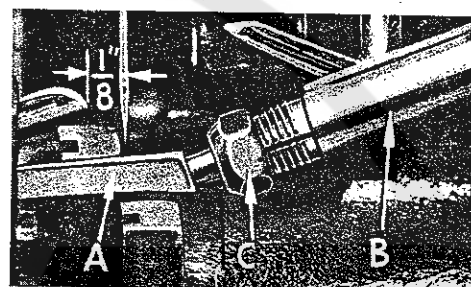
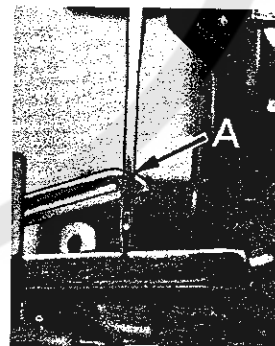

Fig. 5
Fig. 7
At this point, insert lower looper (A, Fig. 5) into bar (B). With lower looper at left end of its stroke, set looper point $1/8$ inch from center of needle (Fig. 5), using looper gauge No. 21225- $1/8$, on Styles 39500 FS, FT, FU, GT and JP. On Styles 39500 GD and GL, with lower looper at left end of its stroke, set looper point $1/16$ inch from center of left needle, using looper gauge No. 21225- $1/16$. Now assemble differential (front) feed dog.
Now finish lower looper adjustment. As lower looper moves to the right, its point should be set into the needle scarf (A, Fig. 7) until the needle springs forward from rear guard surface another $.002$ -. $.004$ inch. Tighten nut (C, Fig. 5) securely.